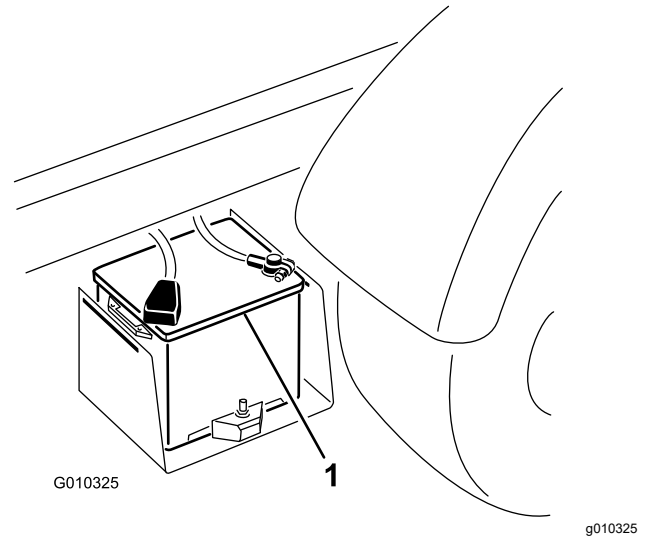

Figure 51
2. Connect a jumper cable between the positive posts of the 2 batteries (Figure 51). The positive post may be identified by a + sign on top of the battery cover.